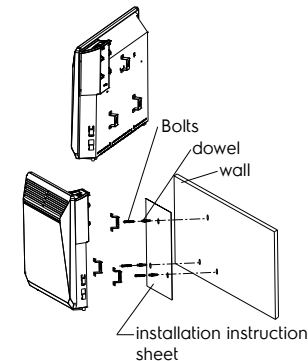

Figure. 4
- Release the wall bracket from the convector: press the latches and pull the bracket towards you by pressing down on the two latches (fig. 4).